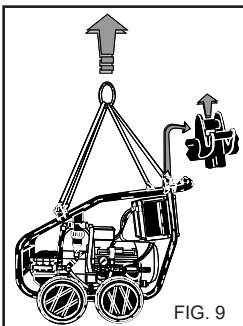

FIG. 9
**LIFTING WITH A CRANE (Fig. 9)**